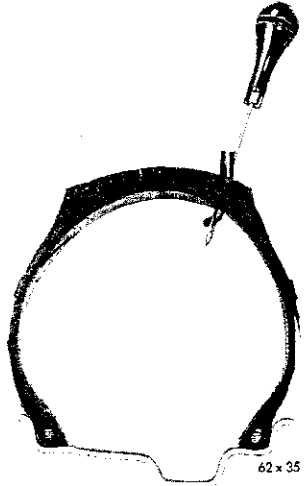

Fig. 4—Plug and Needle Inserted in Tire
- (1) Remove the puncturing object from the hole.
- (2) Carefully probe the hole to determine its size and direction as well as to clear out any foreign matter.
- (3) Using the repair needle, thoroughly coat the hole with cement.
- (4) Select a repair plug at least twice the diameter of the hole.
- (5) Roll the small end of the plug into the eye of the needle, $\frac{3}{8}$ inch from the end of the plug.
- (6) Dip the plug and the needle in the cement and immediately insert it in the hole in the tire. When the small end of the plug snaps through the tire (Fig. 4) it will pull out of the needle as the tool is pushed to full depth.